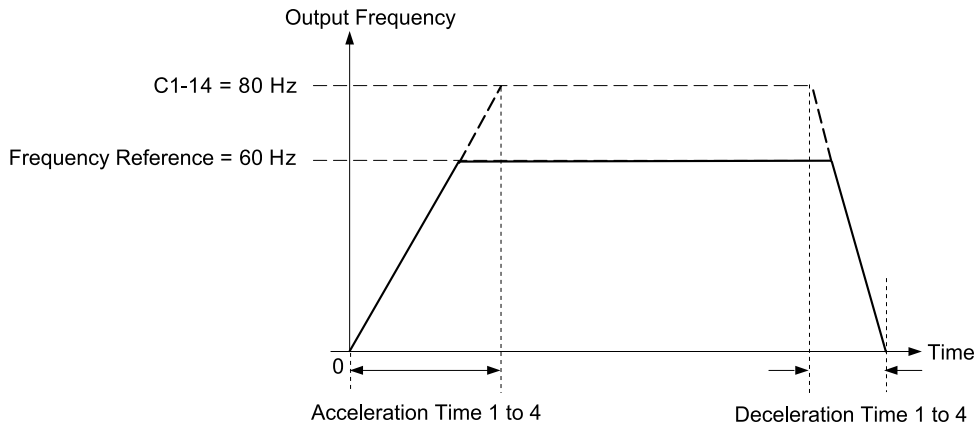

**Figure 12.31 Example 1: Acceleration/Deceleration Rate (When C1-14 = 0 Hz, E1-04 = 60 Hz, and the Frequency Reference is 60 Hz)**
- Figure 12.31 to Figure 12.33 show the accel/decel times when  $C2-01$  to  $C2-04$  [S-Curve Times @ Start/End of Accel/Decel] = 0.00 s.